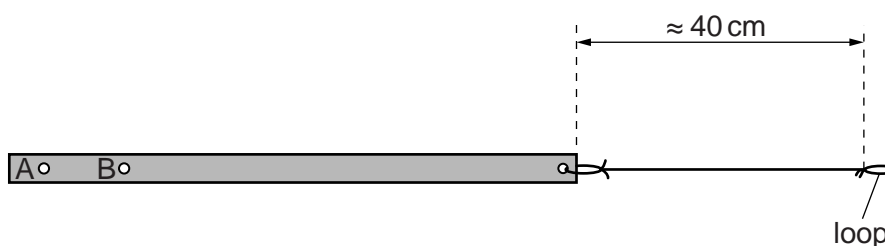

Fig. 2.3 (not to scale)
- 4 Attach string to the wooden strip as shown in Fig. 2.3.